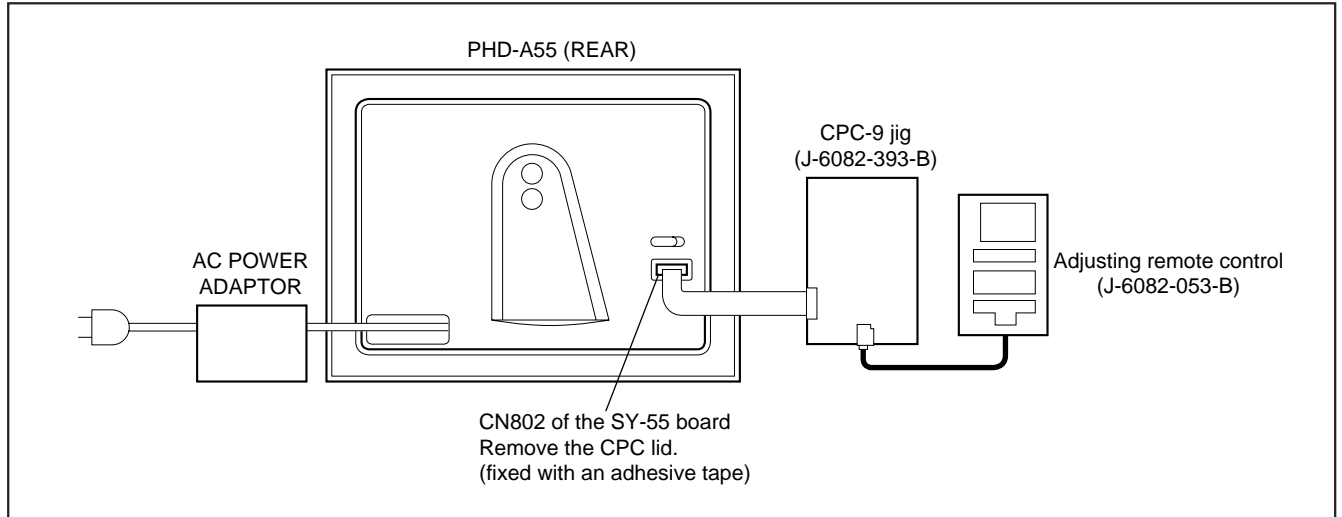

Fig. 5-1-1.
- 1) Connect the adjusting remote commander to the remote (LANC) terminal. (Refer to Fig. 5-1-1.)